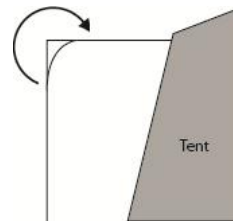

Fig. 1
- **To Roll Away:** Initially, it is best to roll the canopy away along the top as this ensures the guylines and webbing straps are rolled away neatly (fig. 1).
1. Locate one end of each pole onto the corresponding metal pin. The metal pin inserts into the hollow metal ferrule on the end of each pole. (See Figure 1). Push the pole into a curve from the opposite side, one at a time, and locate all pole ends onto the metal pins.